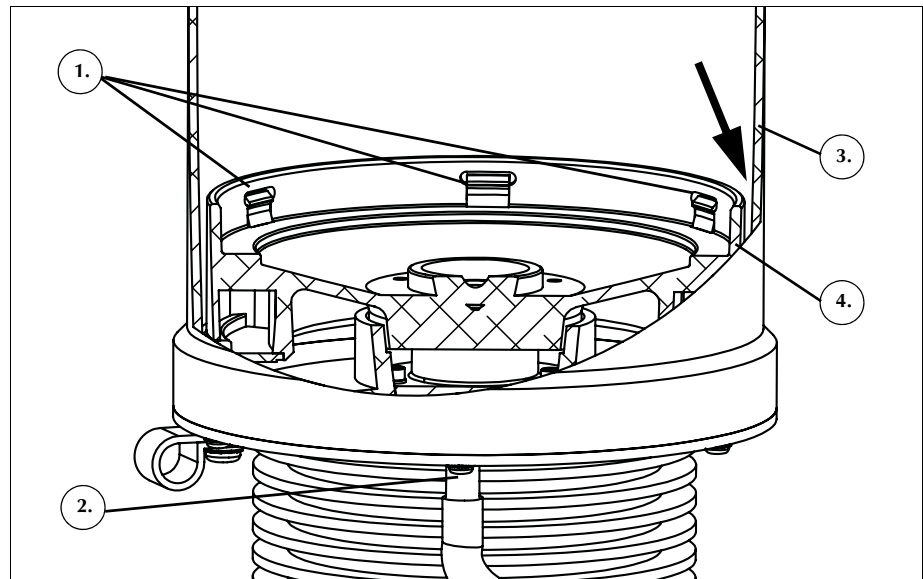

Figure 79, Irrigating the centrifuge drain holes
8. Use a 60 cc syringe to irrigate the centrifuge drain holes with water. Direct the fluid into the gap between the chuck and the centrifuge wall (See Figure 79).